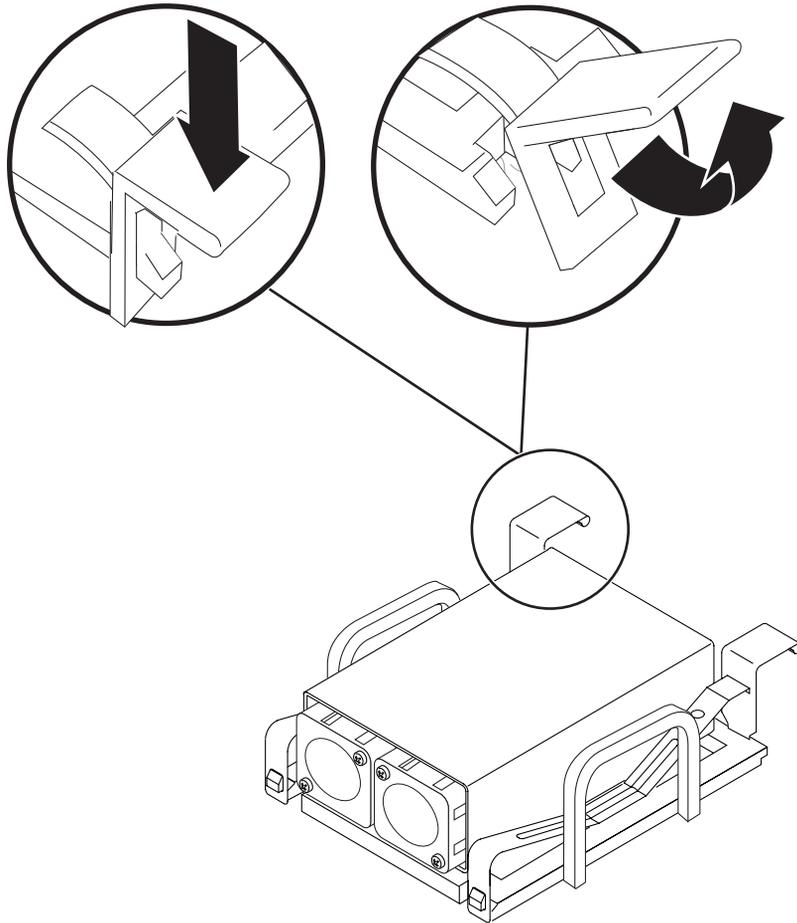

FIGURE 5-20 Unlocking the Heat Sink Fasteners
4. Unlock the heat sink from the CPU socket by first pressing down on the fasteners securing the heat sink assembly and then lifting them up (FIGURE 5-20). Repeat this step for both fasteners on the heat sink.